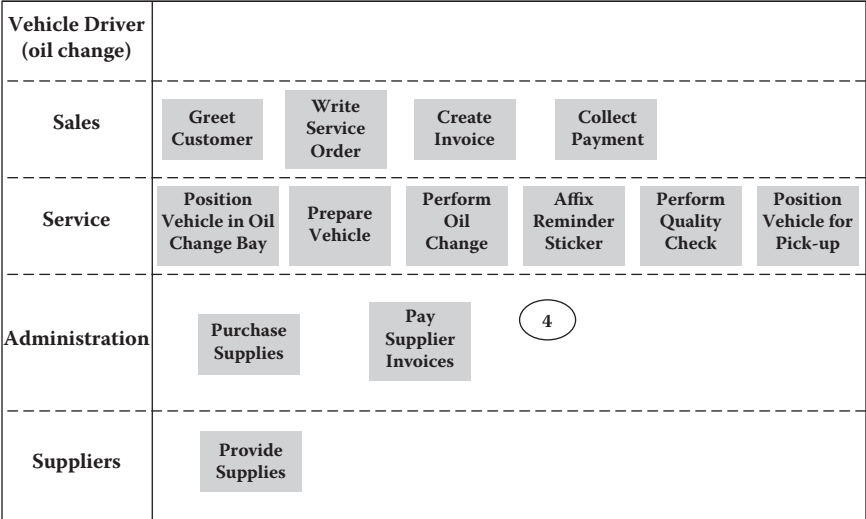

Figure A.14 Swimlane diagram (partial) with activities added using sticky notes.
4. Ask each group member (individually) to (1) write down the activities that make up their portion of the process on sticky notes, and (2) place the notes on the map in the approximate location where those activities occur in the process (Figure A.14).